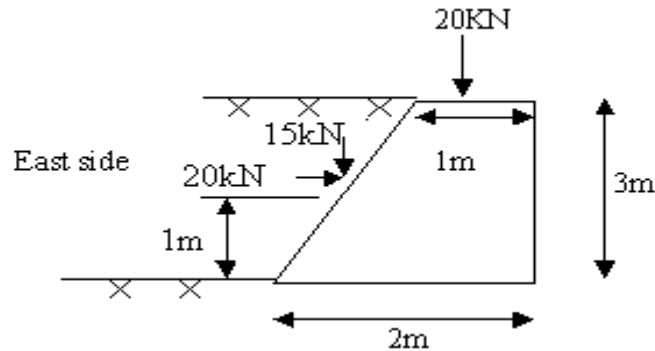

Figure 4:
7. The figure 4. shows the section of a stone masonry abutment used for a highway . bridge together with the forces acting per unit length of the abutment